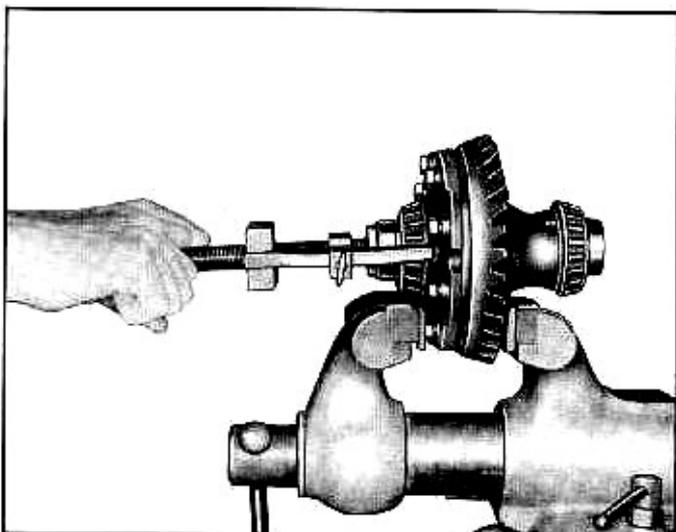

Fig. 6—Removing Differential Bearings
1. Remove differential bearings with J-7112 Puller and J-8107-2 Pilot as shown in Figure 6.